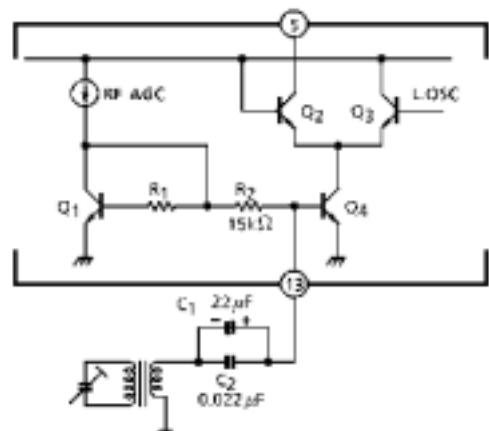

Fig.4
- RF amplifier (see Fig.4)
This stage is composed of emitter-grounded amplifier, the input impedance of which has about  $7.3\text{k}\Omega$ . It is necessary to connect as Fig.4, because the condenser, C1 is available to the audio by-pass of the RF-AGC, the noise of low frequency.